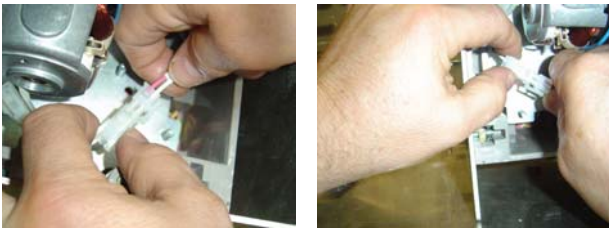

Figure 7. Connectors
4. Disconnect the input wire assembly plugs for the motor and the spring charge status indicator switch as shown in fig.7.